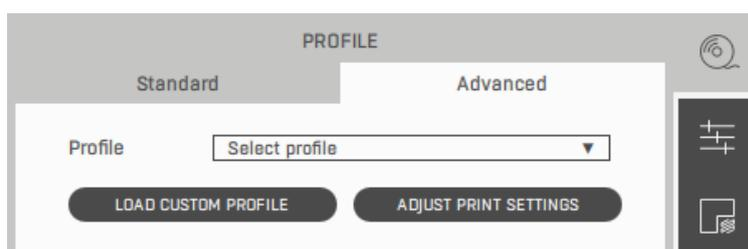

Fig. 33 'Profile' window – 'Advanced' tab
2. In the "profile" window select the "advanced" tab (Fig. 33).